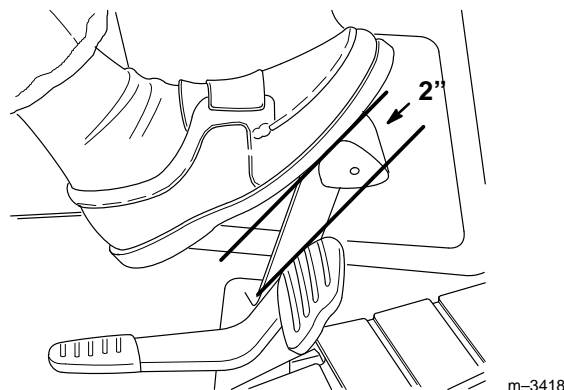

Figure 40
3. Depress the brake pedal. There should be 2" (51 mm) of free travel (Fig. 40) before the brake begins to engage.